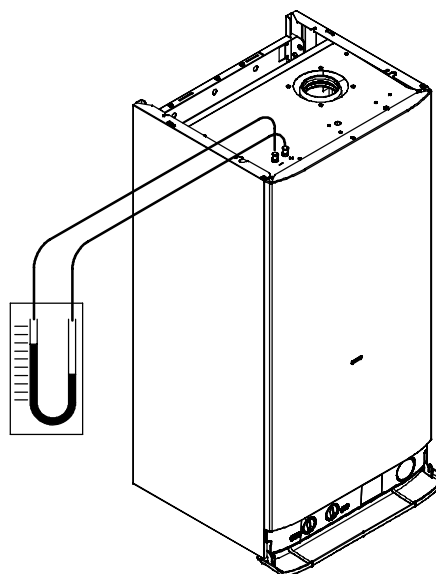

Fig. 3
- 1 Remove the caps of the pressure test points located on the top of the boiler and connect a differential pressure gauge (Fig. 3).